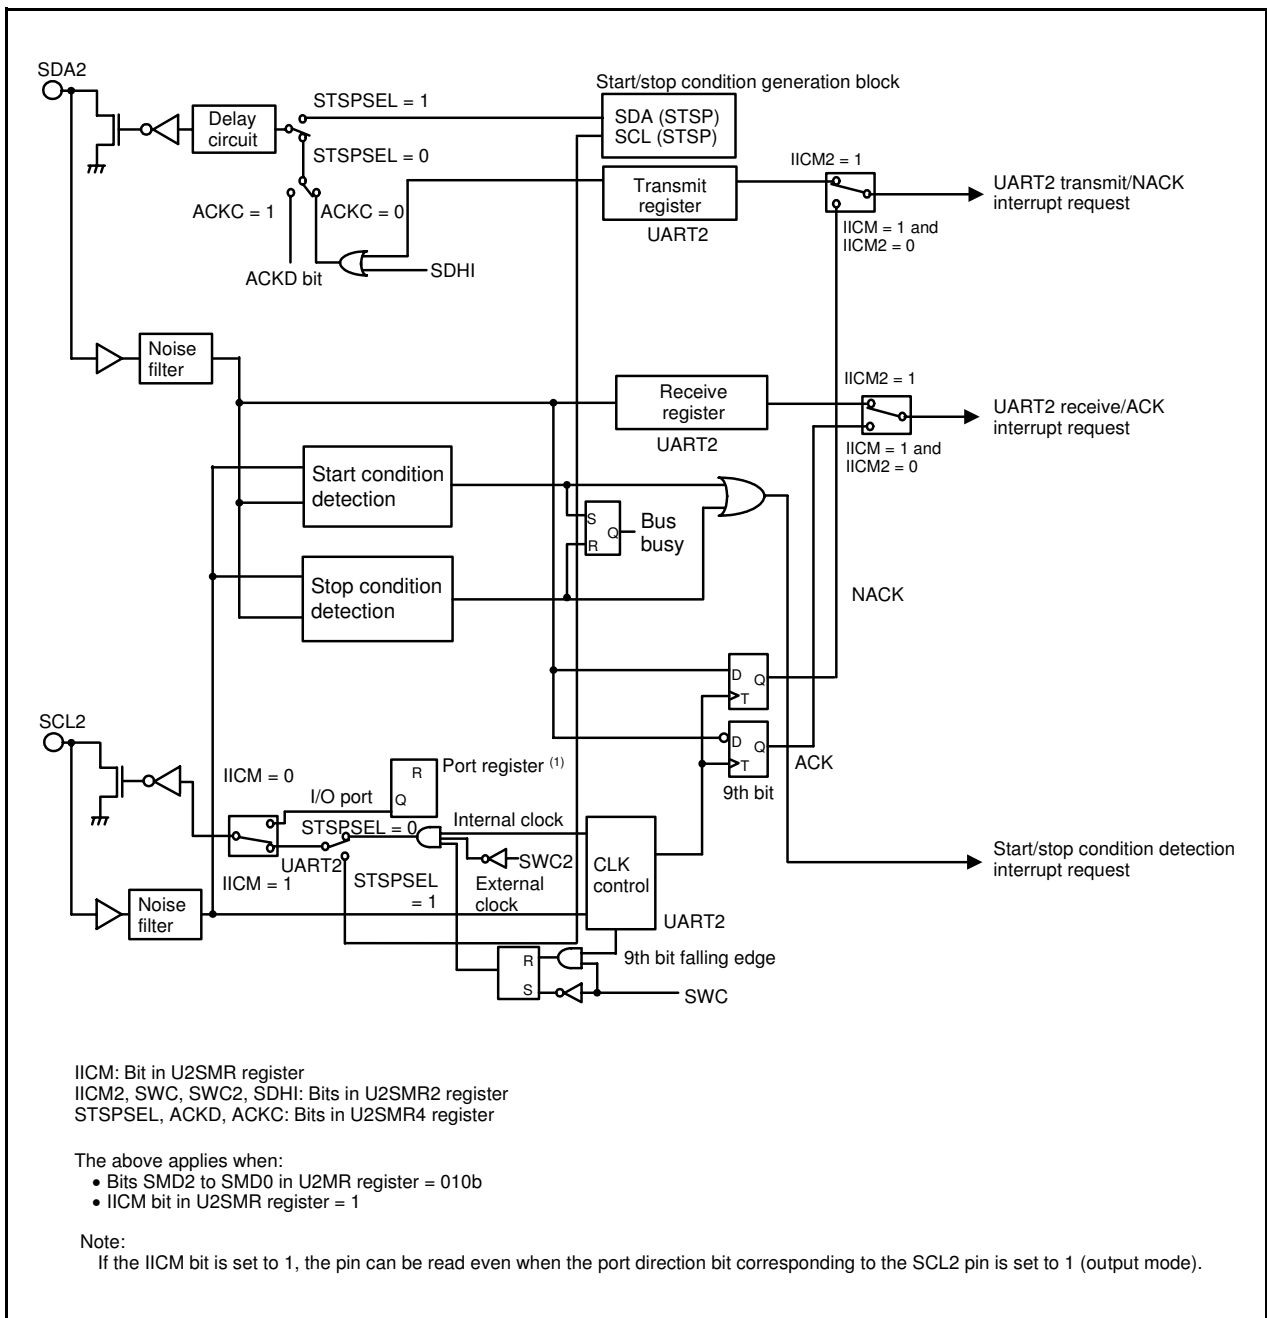
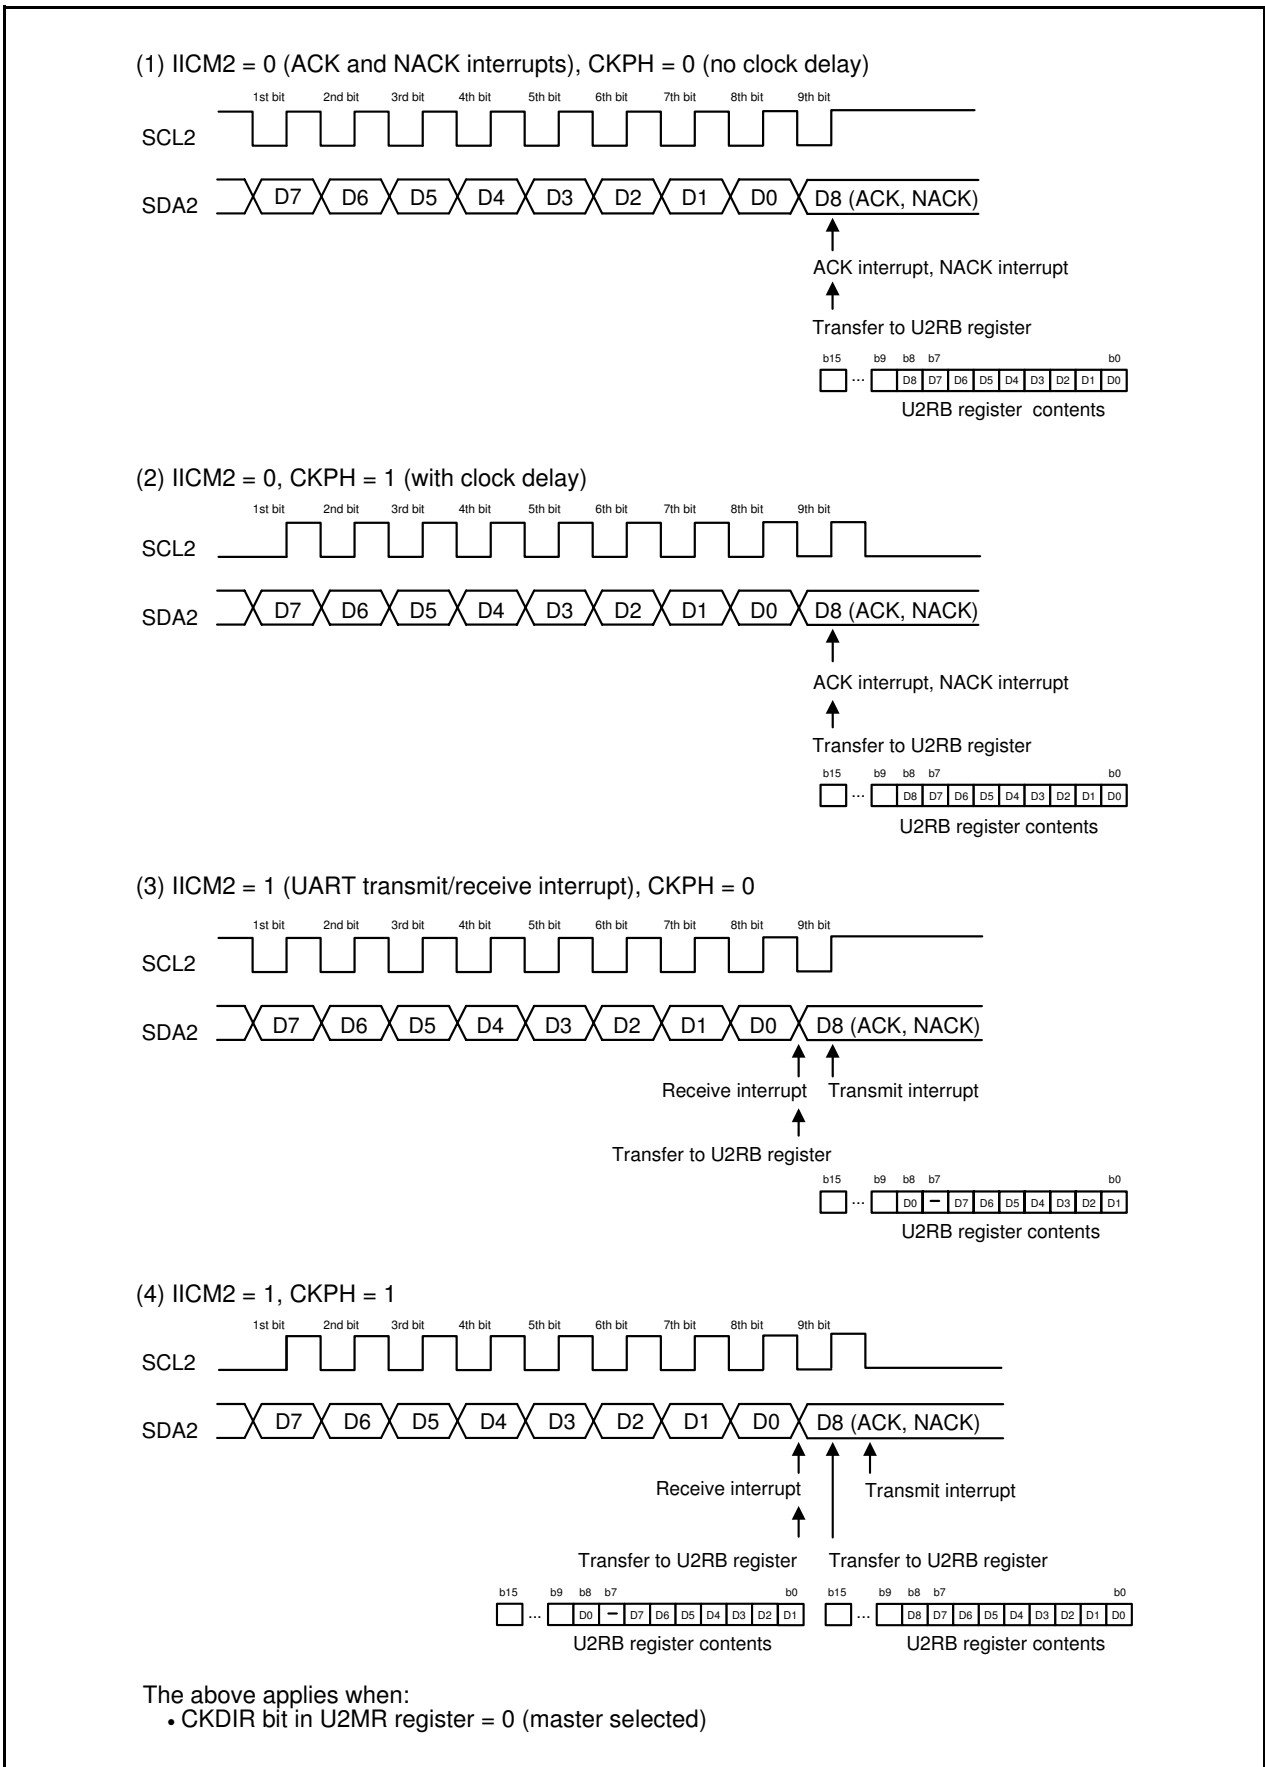

Figure 21.13 I2C Mode Block Diagram
Figure 21.14 Transfer to U2RB Register and Interrupt Timing
I2C mode is provided for use as a simplified I2C interface compatible mode. Table 21.9 lists the I2C Mode Specifications. Tables 21.10 and 21.11 list the registers used in I2C mode and the settings. Table 21.12 lists the I2C Mode Functions, Figure 21.13 shows an I2C Mode Block Diagram, and Figure 21.14 shows the Transfer to U2RB Register and Interrupt Timing.
6. Refer to **Figure 21.14 Transfer to U2RB Register and Interrupt Timing**.
The transfer clock is used to transmit and receive data as is shown in **Figure 21.14 Transfer to U2RB Register and Interrupt Timing**.